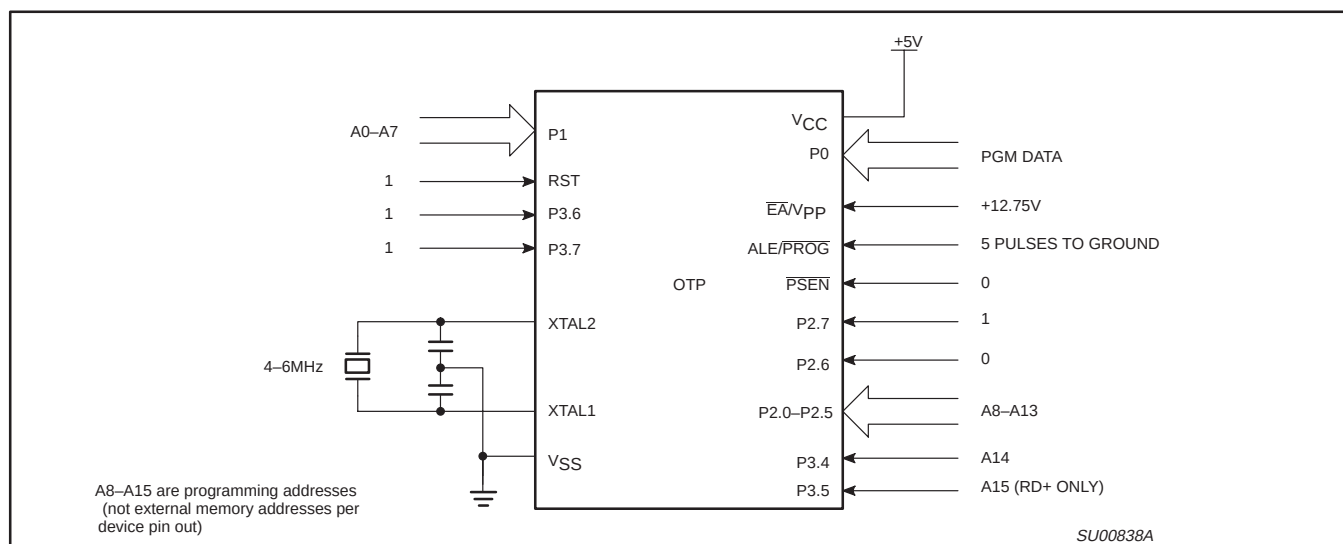
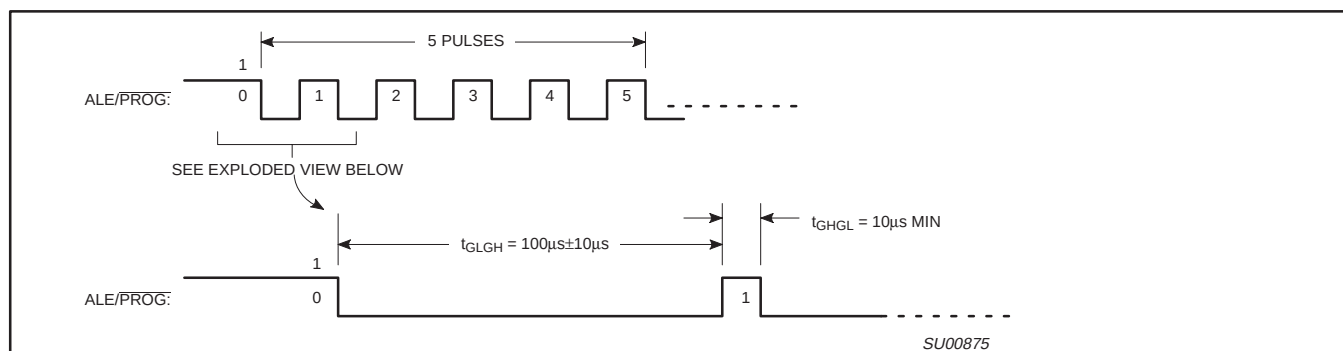
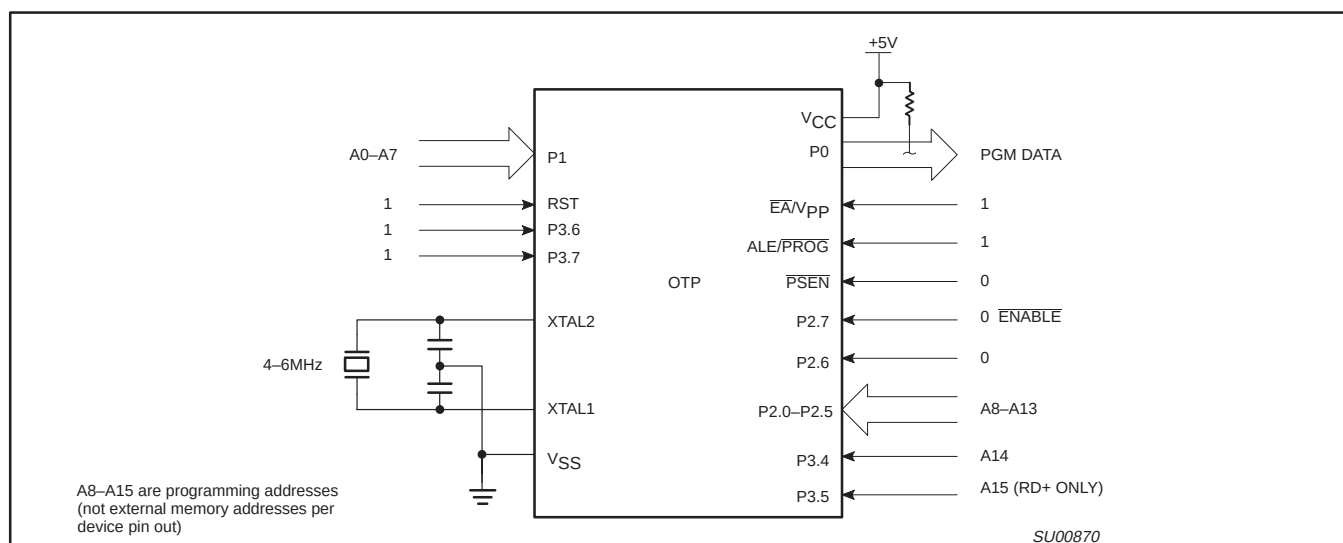

Figure 41. Programming Configuration
Figure 42. $\overline{\text{PROG}}$ Waveform
Figure 43. Program Verification
Table 9 shows the logic levels for reading the signature byte, and for programming the program memory, the encryption table, and the security bits. The circuit configuration and waveforms for quick-pulse programming are shown in Figures 41 and 42. Figure 43 shows the circuit configuration for normal program memory verification.
The setup for microcontroller quick-pulse programming is shown in Figure 41. Note that the device is running with a 4 to 6MHz oscillator. The reason the oscillator needs to be running is that the device is executing internal address and program data transfers.
The address of the EPROM location to be programmed is applied to ports 1 and 2, as shown in Figure 41. The code byte to be programmed into that location is applied to port 0. RST, $\overline{PSEN}$ and pins of ports 2 and 3 specified in Table 9 are held at the 'Program Code Data' levels indicated in Table 9. The ALE/PROG is pulsed low 5 times as shown in Figure 42.
address of the program memory locations to be read is applied to ports 1 and 2 as shown in Figure 43. The other pins are held at the 'Verify Code Data' levels indicated in Table 9. The contents of the address location will be emitted on port 0. External pull-ups are required on port 0 for this operation.
* FOR PROGRAMMING CONFIGURATION SEE FIGURE 41.
FOR VERIFICATION CONDITIONS SEE FIGURE 43.